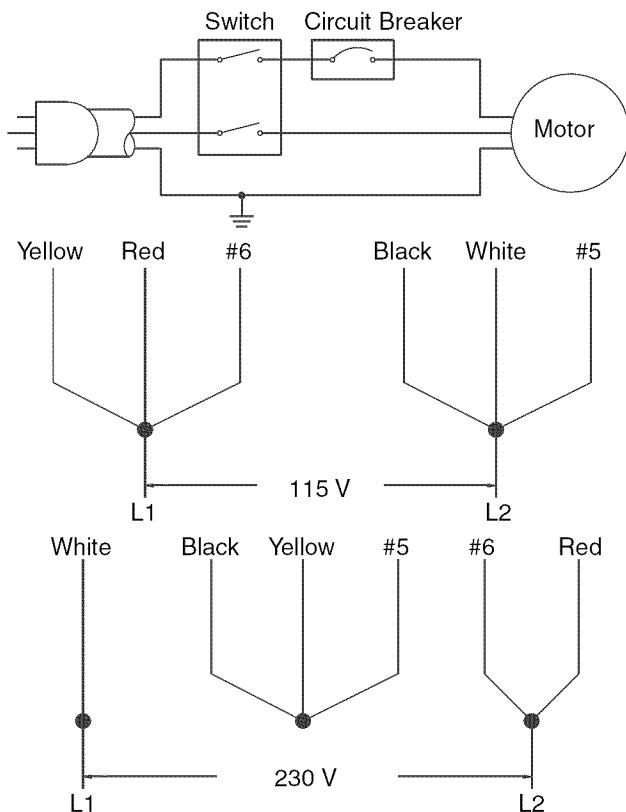

Figure 5 - Wiring Diagram
- See wiring diagram (Figure 5) for wiring instructions, single-phase operation.